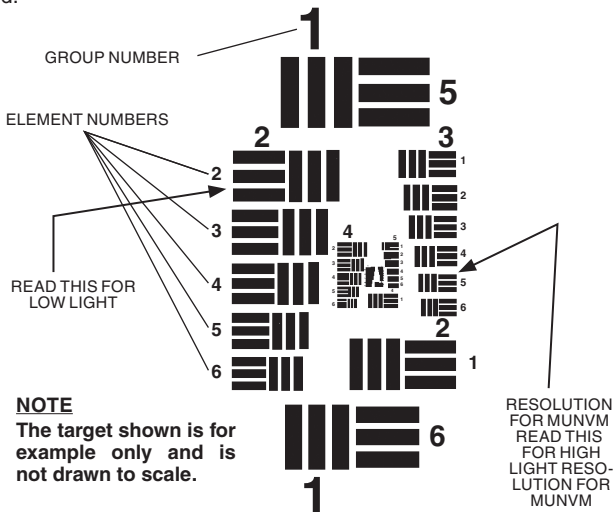

FIGURE 2.2. TS-4348/UV TEST SET PATTERN
- (1) Place the HIGH/LOW switch on the test set to the LOW position.
- (2) Install the LIF per paragraph 2.3.6.
- (3) Turn off the room light and let your eyes adjust to the dark.
- (4) Turn on the test set by setting the “II/OFF/III” switch to the “III” position.
- (5) Turn on the the monocular and insert it into the test port on the test set.
- (6) Look through the monocular and view the projected pattern (see Figure 2.2.). If necessary, focus the eyepiece lens and then the objective lens to obtain the sharpest image.
- (7) The MUNVM monocular must be able to resolve Group 2, Element 2, under low light conditions to pass the test. If the MUNVM does not pass the test, return it to maintenance for repair. The operator must document resolution failures on the maintenance record.
- (8) Flip the HIGH/LOW switch to the HIGH position.
- (9) Again, look through the monocular and view the projected pattern (see Figure 2.2.). If necessary, refocus the objective lens and then the eyepiece lens to obtain the sharpest image.
- (10) The MUNVM must be able to resolve Group 3, Element 5, under high light conditions to pass the test. If the monocular does not pass the test, send it to a higher level of maintenance for repair.